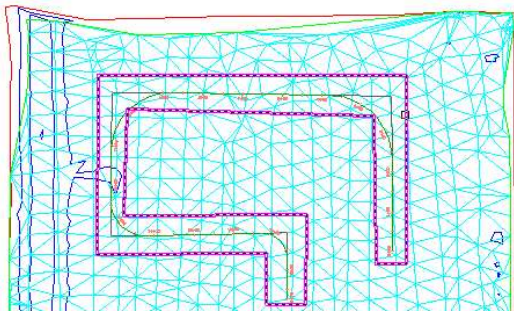

Figure 4-29 Selecting the **Finished Ground** from the drawing
7. Select the **Finished Ground** displayed in magenta color from the drawing, as shown in Figure 4-29.